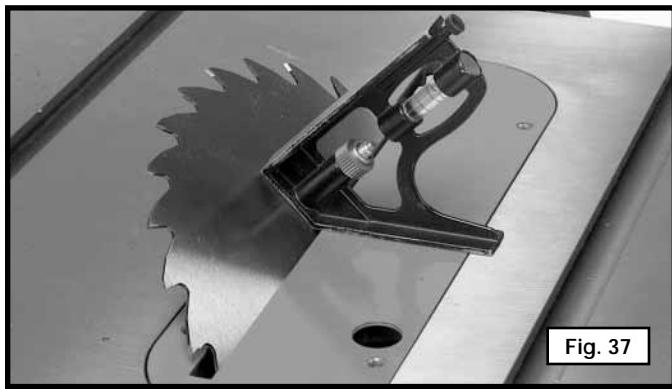
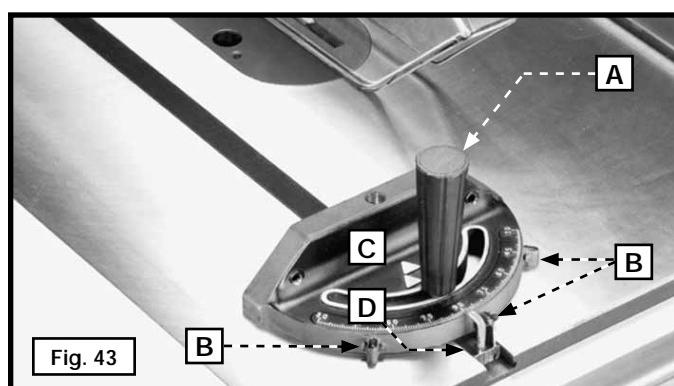

Fig. 37
Fig. 43
4. Turn the blade-tilting handwheel counter-clockwise as far as it will go. Use a square to see if the blade is 45° to the table (Fig. 37). To adjust, turn the blade-tilting handwheel clockwise until the adjusting screw (D) Fig. 43, and locknut (C) are in view. Loosen the locknut (C) and tighten or loosen the adjusting screw (D) until the head of the screw (D) contacts the casting on the front trunnion when the blade is at 45° to the table. Tighten the locknut (C).
The miter gauge body (C) can stop at 90° and 45° both right and left by flipping the stop link out of the way and moving the miter gauge body (C) past the 90° and 45° marks and flipping the stop link (D) back up so that the stop link (D) will be able to contact the adjusting screws (B). To rotate the miter gauge body past these points, flip the stop link (D) Fig. 43 out of the way.
7. Install the three new belts, one at a time in the grooves of the arbor pulley (F) Fig. 43, and the motor pulley.